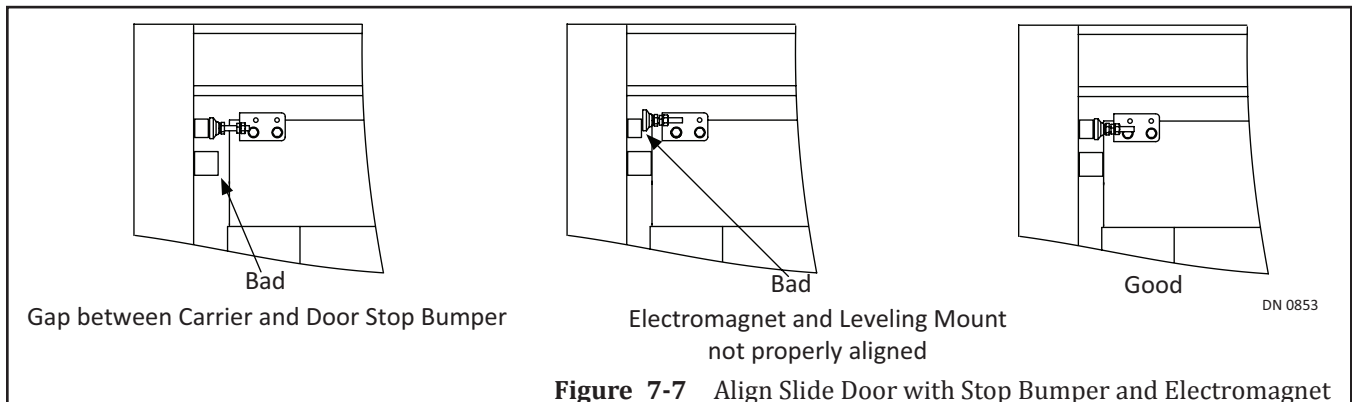

Figure 7-7 Align Slide Door with Stop Bumper and Electromagnet
1. Manually slide door to full open position. Please see Figure 7-7.